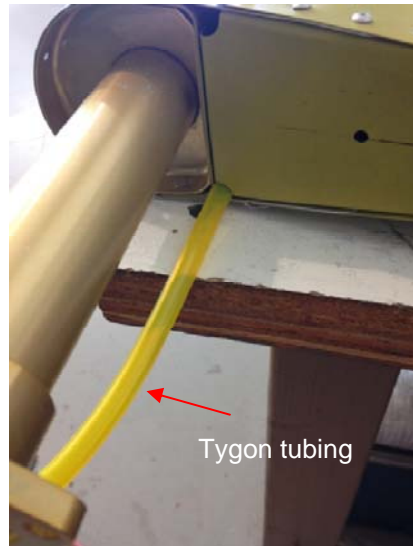

Figure 5-10: Remove Debris
2. Remove rivet tails and foreign object debris from inside the elevator using a vacuum system. If the elevator was removed from the airplane, connect the included piece of Tygon tubing to the vacuum system and insert between the trailing edge skin and the inside rib to aid in removing foreign object debris. See Figure 5-10.